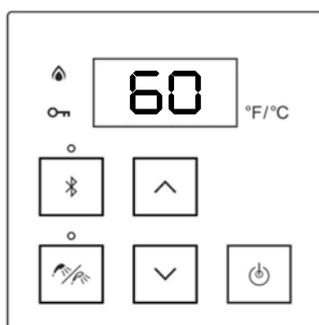

Figure 81
13. Display shows “60” (Figure 81) which indicates the remaining flush time in minutes. The number decreases by 1 every minute. For some reasons, flushing needs to be paused, stop the pump. The number on the display does not decrease while the unit does not detect water flow. When the pump resumes operation, the remaining flush time resumes decreasing as well.